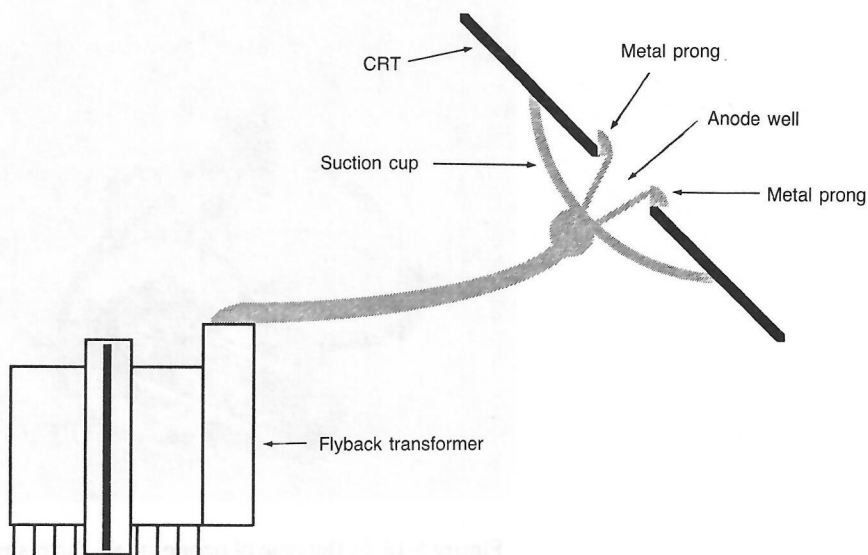

Figure 5-16 The metal prongs under the suction cup resemble a winged, uppercase "V."
3. When the CRT is fully discharged (when there's no more soft crackling), free the anode connector from the anode well. As illustrated in Figure 5-16, the metal prongs under the suction cup resemble a winged, uppercase "V." Push in on the center of the V with the tip of the discharge probe to unhook the first wing. When the first wing is free, the other wing should slip right out.